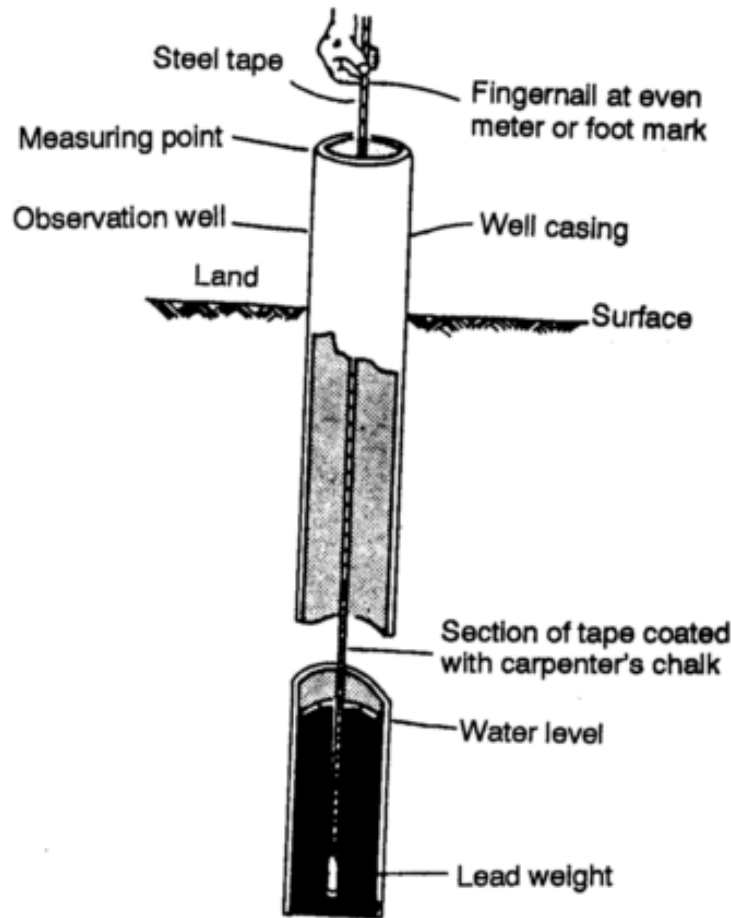

Figure 8-3. Steel-tape measurement method
- Chalk one end of a weighted steel tape with carpenter's chalk. Lower the tape (Figure 8-3) into the well to a depth of 1 or 2 feet past the chalk. (You can use soluble felt-tip markers as an alternative to chalk.)